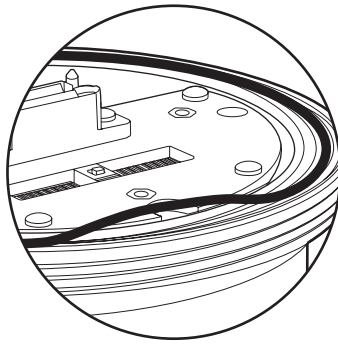

Figure 9. Lightly Lubricate and Install O-Ring
1. Lightly apply O-ring lubricant (supplied) to the O-ring, and then install the O-ring on the rim of the power module (refer to Figure 9).